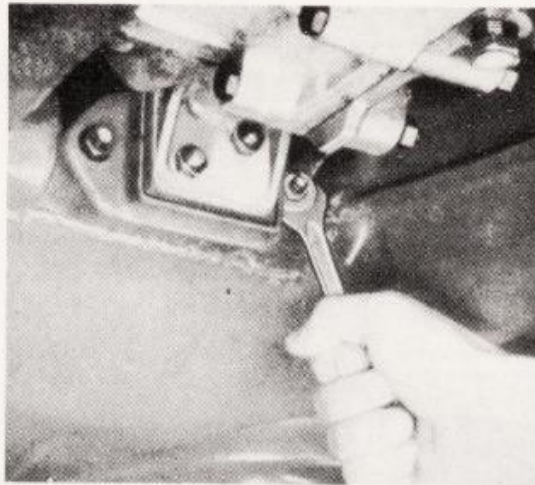

Fig. M-3. Removal of front transmission mounting.
- 10 - Remove nuts at transmission front mounting, Fig. M-3.